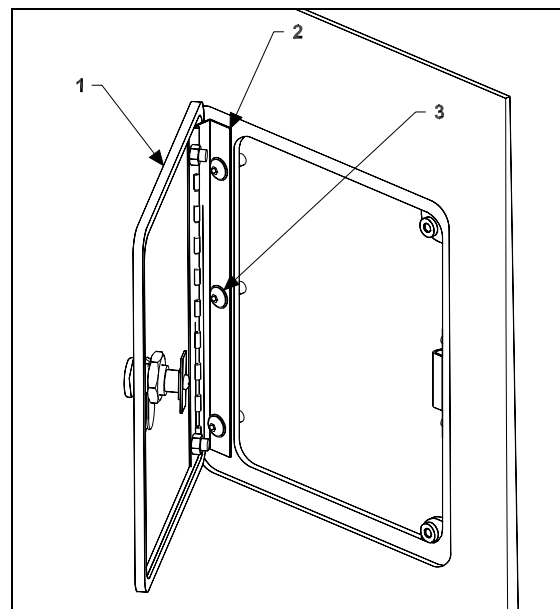

FIGURE 58: FUEL FILLER DOOR
1. Open the fuel filler door (1, Fig. 58).
2. Loosen the screws (3, Fig. 58) holding the panel to hinge (2, Fig. 58) assembly.
5. Loosen nut (3, Fig. 58). Hinge allows the door to be shifted "IN or OUT".